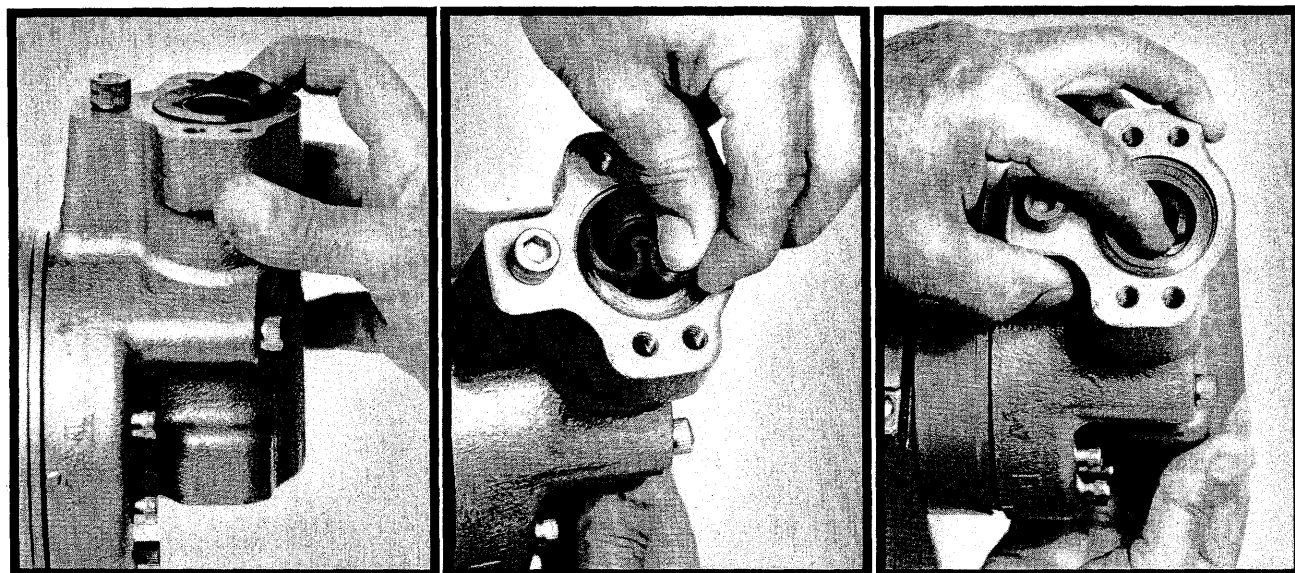

FIGURE 7.
8. Pick up an edge of the HYDRATUBE flange (Figure 7) and push that same edge down throat of the HYDRATUBE. The balance of the flange will fold and follow.